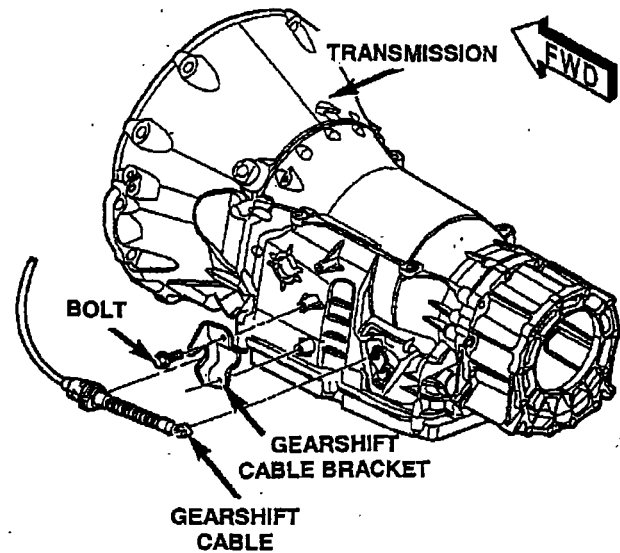

Figure 10
39. Connect the gearshift cable to the gearshift cable bracket and the manual valve arm (Figure 10).